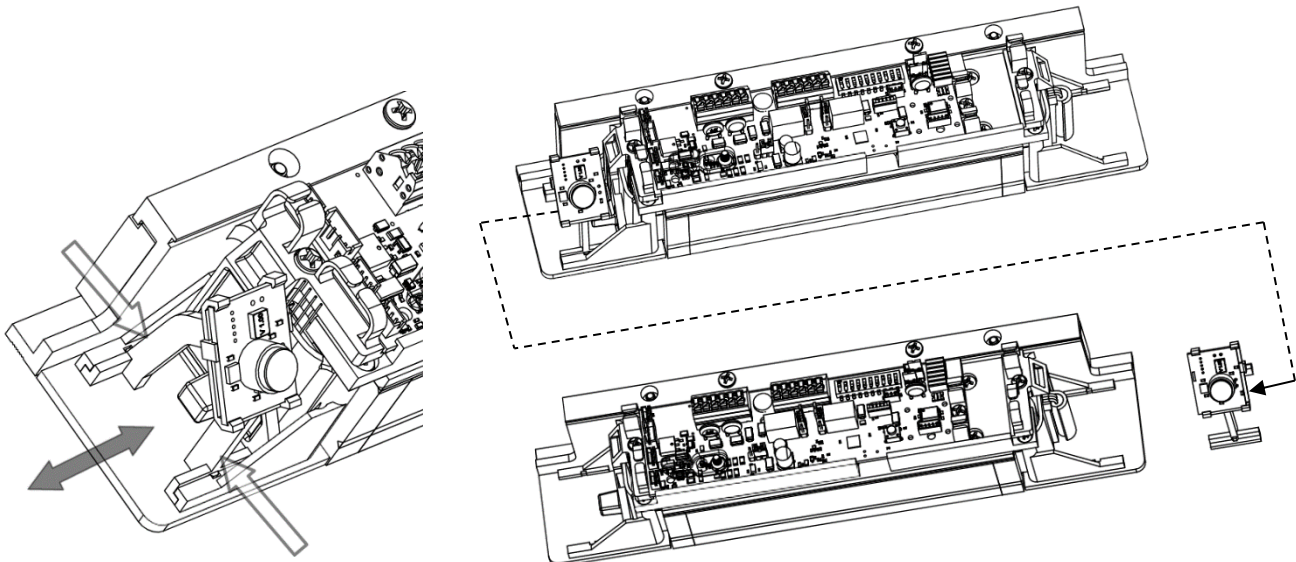

Figure 2. Removing and Installing the PIR REX Module
1. To remove or install the module, compress the legs of the support bracket and slide the bracket into or out of the retaining rails at either end of the lock (see Figure 2, “Removing and Installing the PIR REX Module”).